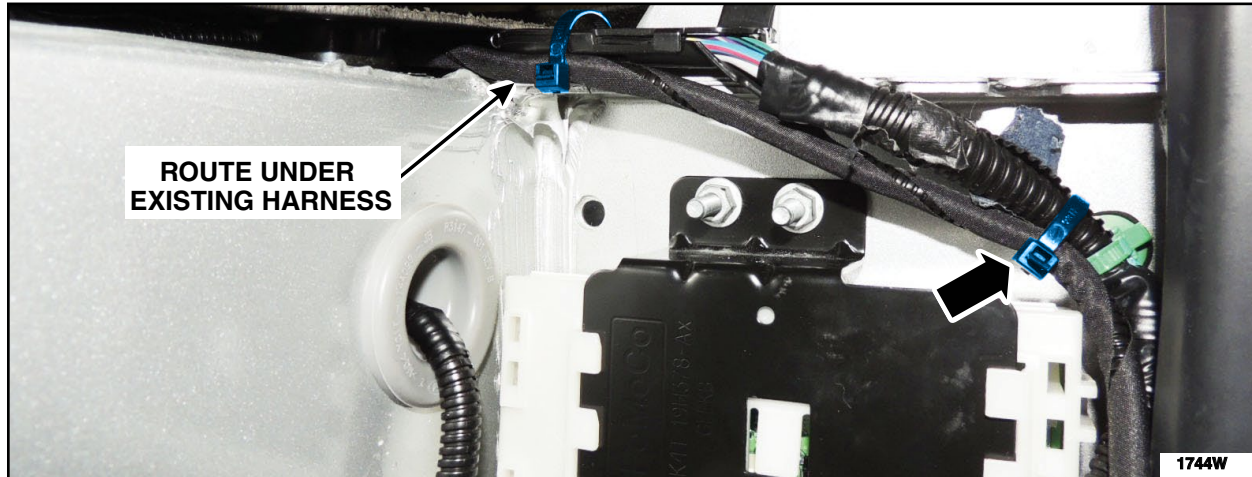

FIGURE 28
3. Install tie-straps (component F) to the TRM harness, one on the outboard side near the door weatherstrip and the other near the rear of the driver's seat pedestal mount. Tighten both tie-straps so the new ground circuit wire is next to, or below, the existing TRM harness. Cut off and remove the extra length of the tie-strap. See Figure 28.